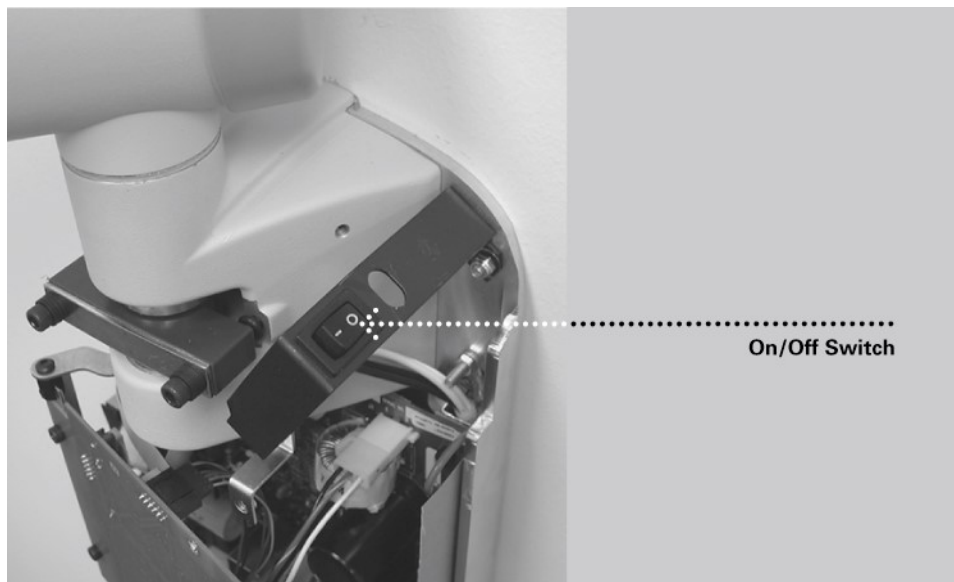

Figure 33
3. Turn on the Preva Dental X-ray System using the power switch, as shown in *Figure 32*. On the Operator Panel, *Figure 33*, you will see the product display screen showing the software version. Then the Operator Panel will display the default technique factors.